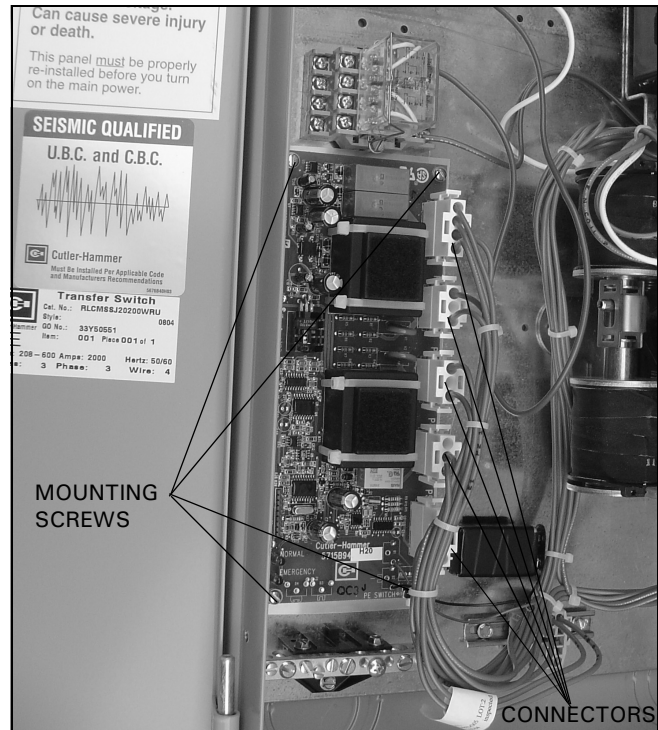

Figure 34. Removing the Controller Board.
- Step 3:** Disconnect the P1, P2, P3, P4, and P5 white plugs from the controller board (see Figure 34).
- Step 4:** Using a blade screwdriver, remove the four (4) small screws located at the corners of the controller board. Remove the controller board (see Figure 34).
Step 5: Disconnect the P1, P2, P3, P4, and P5 white plugs from the controller board (see Figure 34).